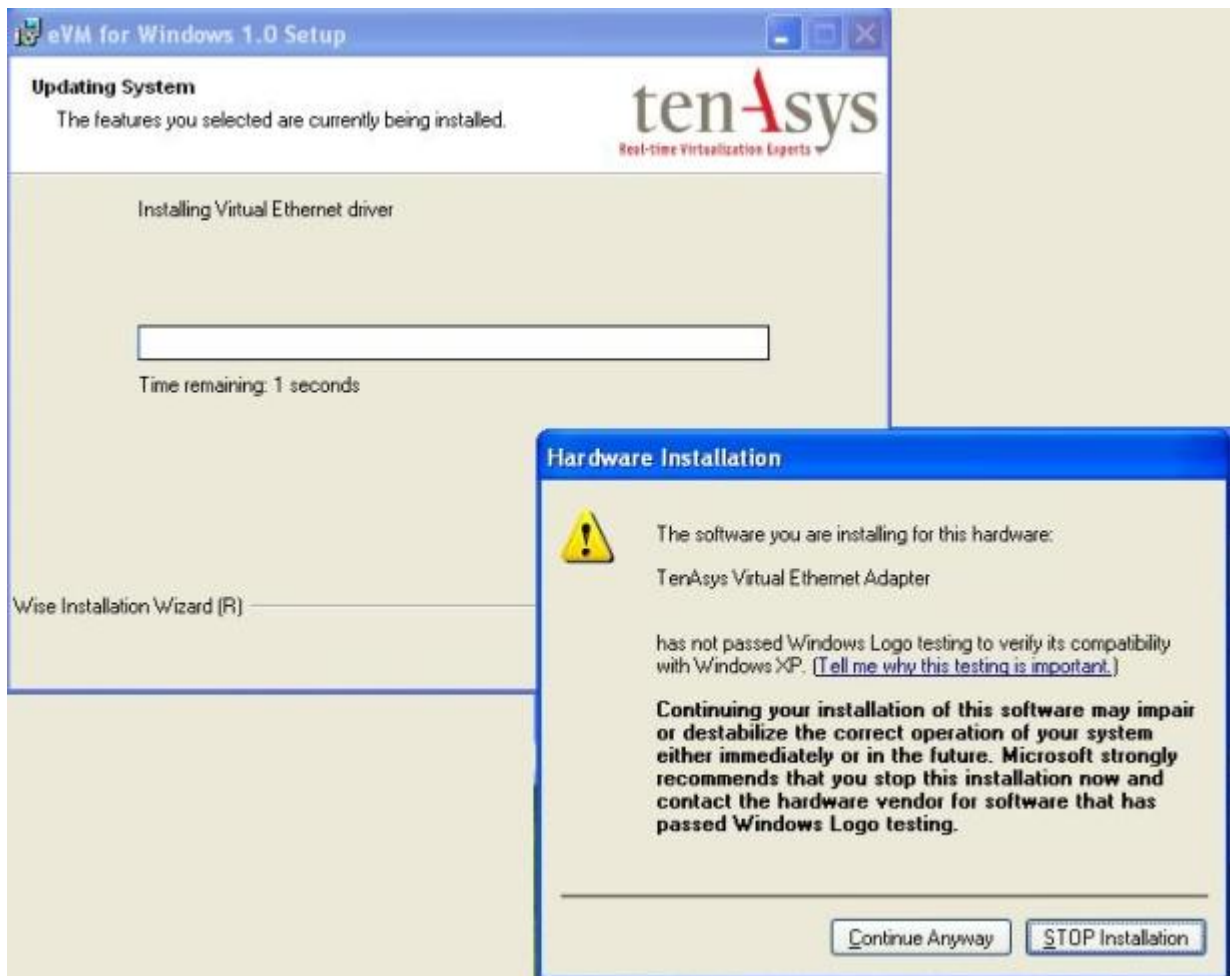

Figure F. 24 - Virtual Ethernet Driver Installation
23. The eVM Installation Wizard will next install the virtual Ethernet device. Windows XP will prompt and ask if you want it proceed with that device installation, Figure F. 24. Click **Continue Anyway** to install the device and continue with the installation.